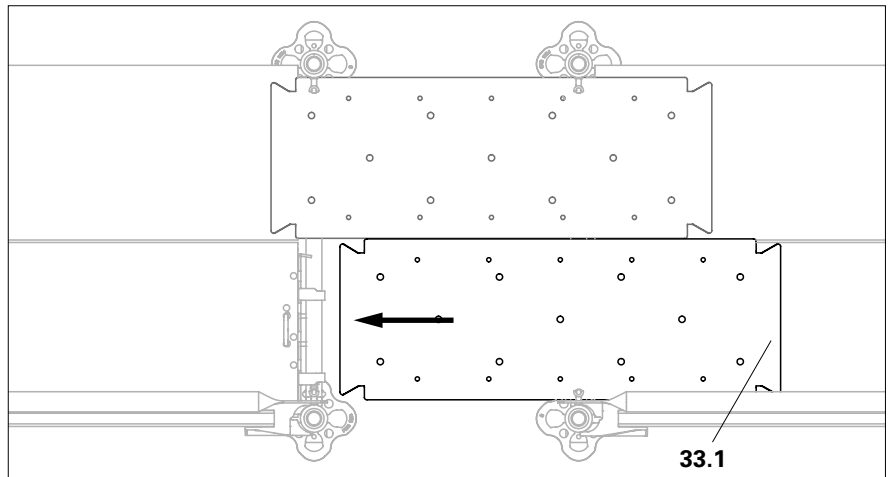

Fig. B7.02
1. On one side of the scaffolding, place the shiftable side (**33.1**) on the stand-ard decking and shift the deck compensation towards the crossbar. (Fig. B7.02)